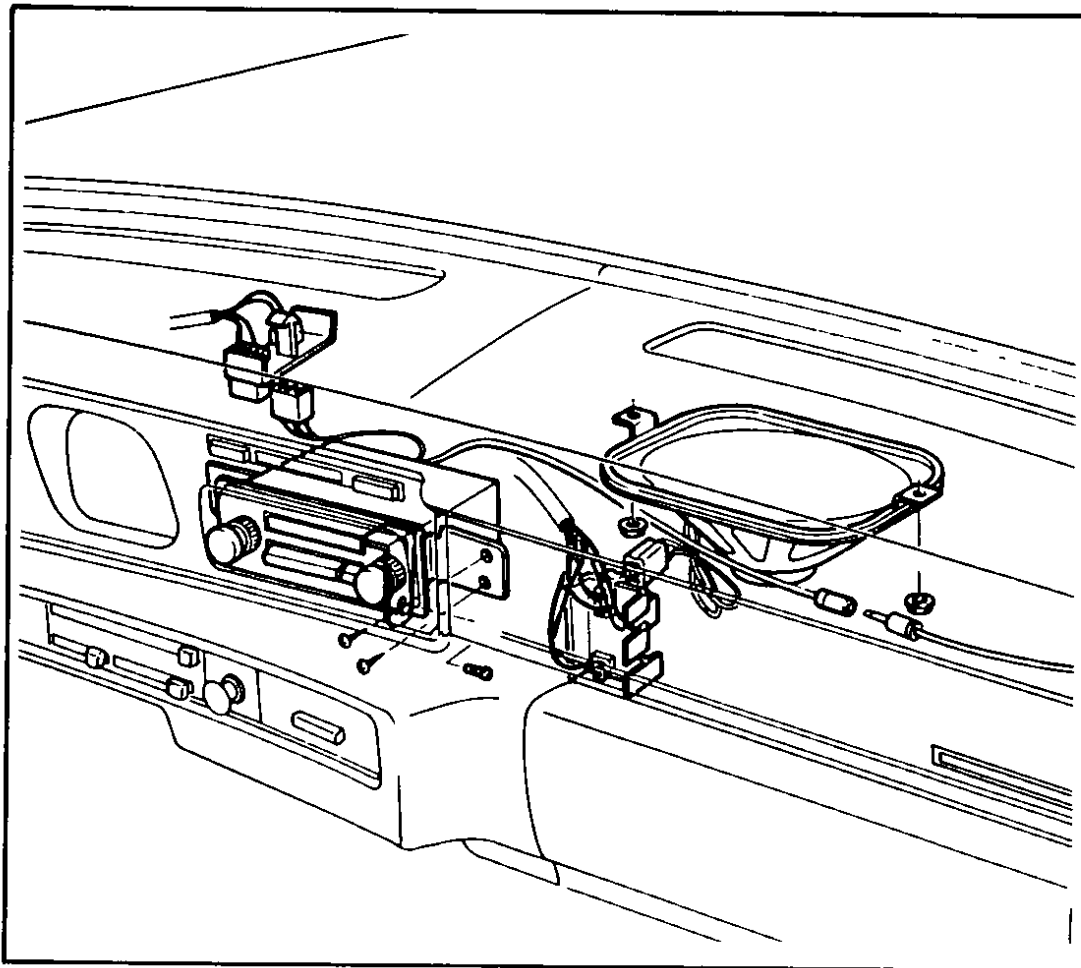

Fig 77 Radio installation – Model 610
- 13 Disconnect the radio wires from the instrument harness at the connector, Fig 77